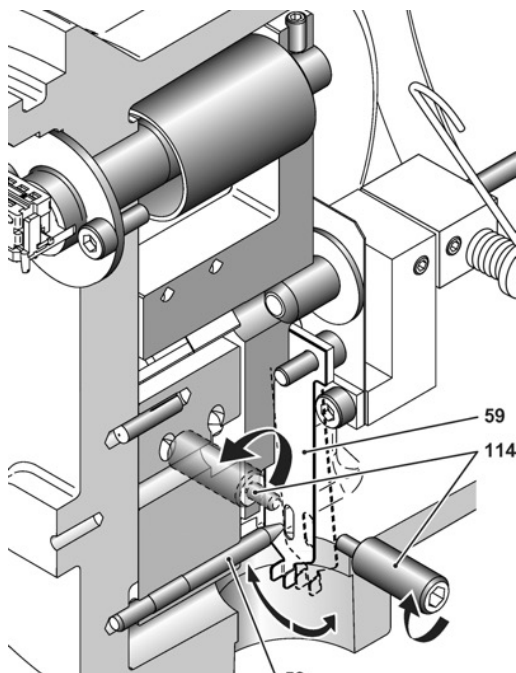

Figure 18 – Calibration with adjusting screws
- Open the access plug (107) on the right side of the case to look at the simulation mechanism. Remove the safety blue plug (190) and the two 1/8" NPT plugs (115). Use a 5 mm Hex wrench.
- Simulate level variations by moving the flexure (59) in the direction of the torque tube until the flexure touches the adjusting screw post (114).
- While maintaining contact, slide the flexure left or right along the surface of the screw post (figure 18) to simulate low and high level values of the process fluid(s).